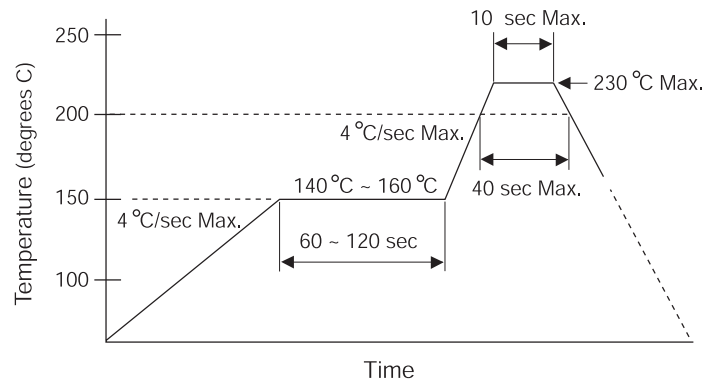

Figure 6. Temperature Profile for the Top Surface
- The temperature profile at the top surface of the ZHX1403 transceivers, shown in Figure 6, is recommended.